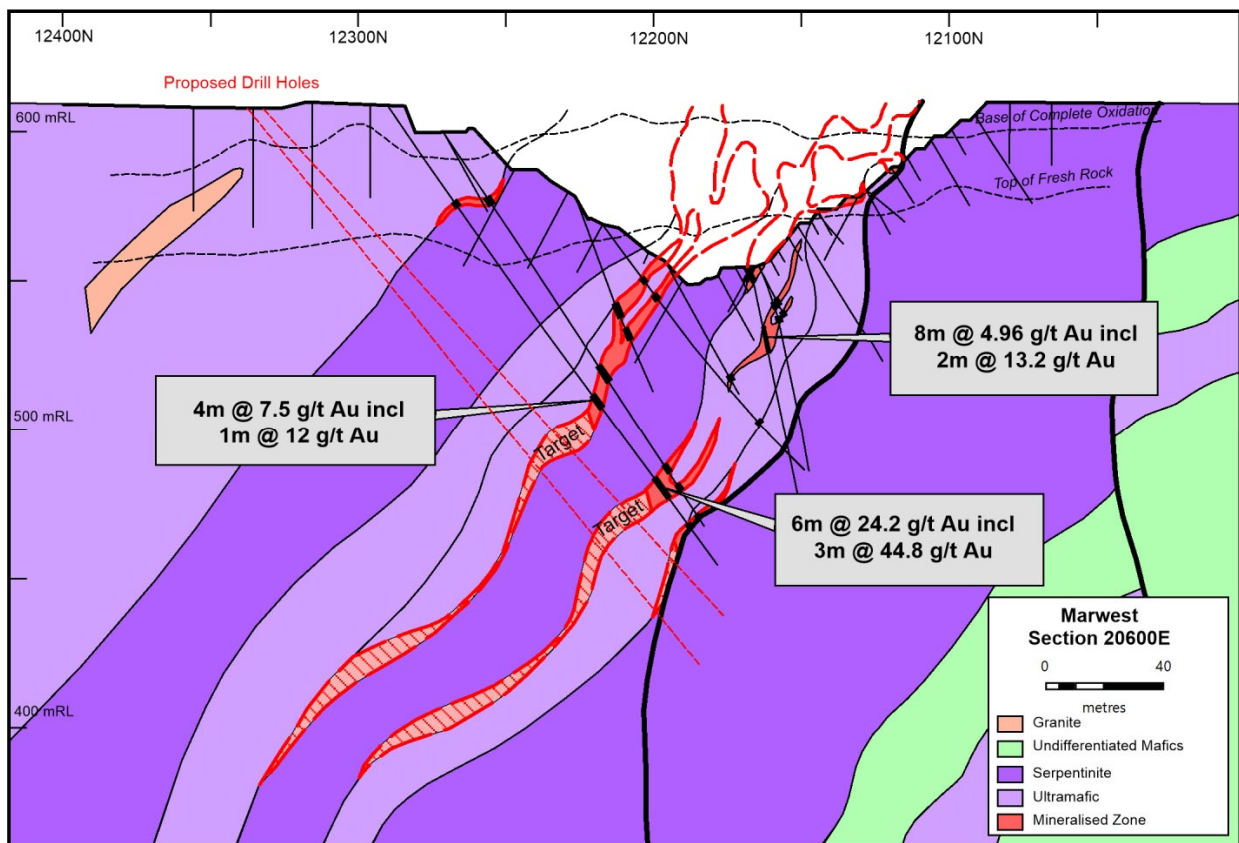

Figure 3: Marwest Cross Section 20,600E with previous intersections and planned drilling
- 6m @ 24.2 g/t Au from 157m incl. 3m @ 44.8 g/t Au and 4m @ 7.5 g/t Au from 119m incl. 1m @ 12 g/t Au in MWRC0019 (see cross section Figure 3)